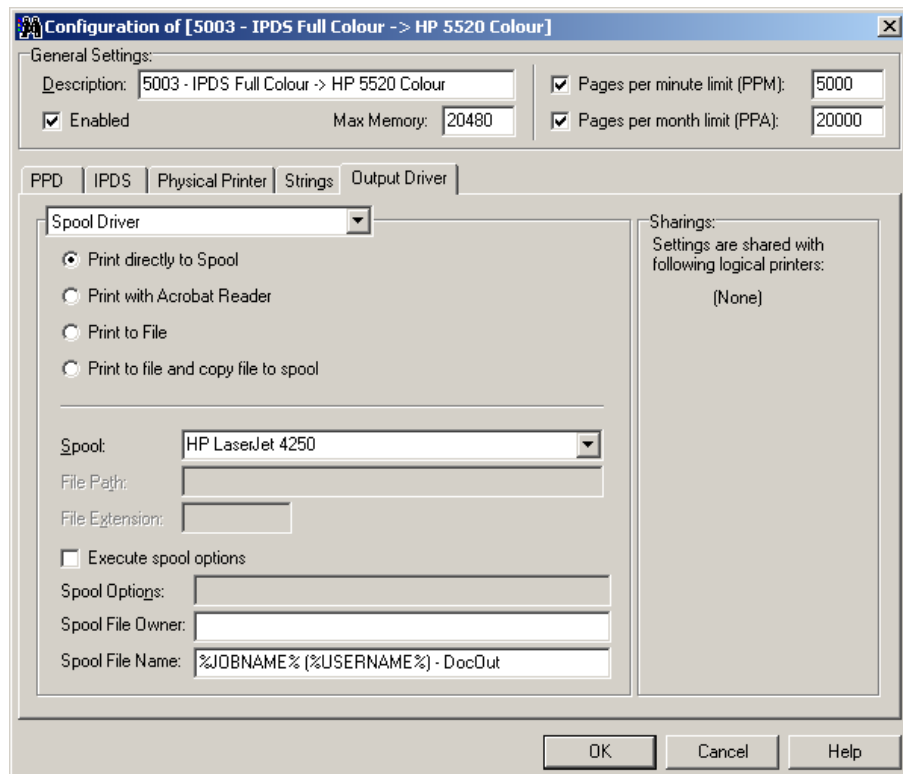

Figure 24
9. Click the **Output Driver** tab (**Figure 24**). Here, you can select the appropriate port driver from a dropdown menu. Choose between printing to spool (**Spool Driver**) or to a **TCP/IP Network Port Driver**. If you print to a spool driver, you can choose to send the output directly to the spool queue, to print PDF output, to print to a file or to print to file and copy to spool. According to your choice, the fields in the lower part of the dialogue will be ready for input. Click on **Help** for further information.